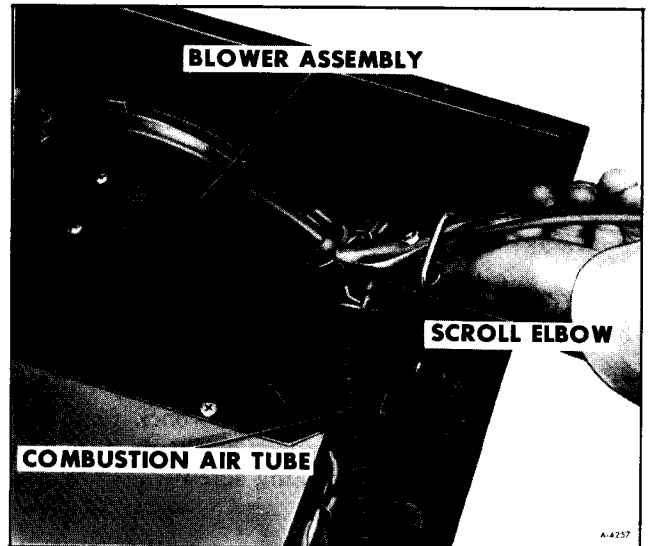

Figure 27—Disconnecting Combustion Air Tube from Blower Assembly
7. Disconnect combustion air tube from blower assembly (See figure 27).